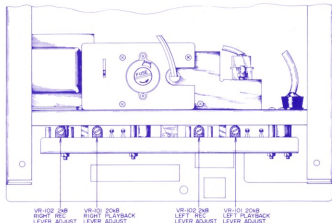

Fig. 7-1
- Adjust the VR 101 (semi-fixed resistor 20 K-Ω, Fig. 7-1) of the pre-amplifier so that Line Output Voltage indicates 1.228 V ( $\pm 4$  dbm).